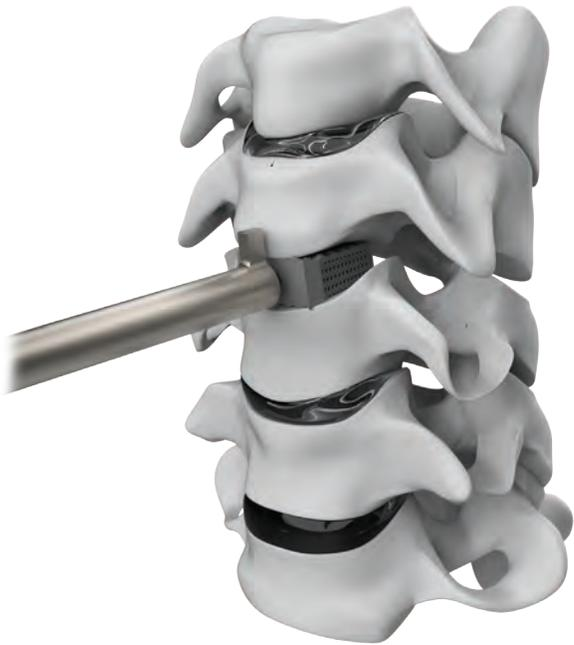

Figure 7
- If desired, a modular sleeve with a 2 mm safety stop can be attached to the shaft of the Inserter prior to loading the implant. The safety stop will contact the anterior edge of the vertebral body when the Interbody is inserted 2 mm beyond the anterior edge of the vertebral body (Figure 7).